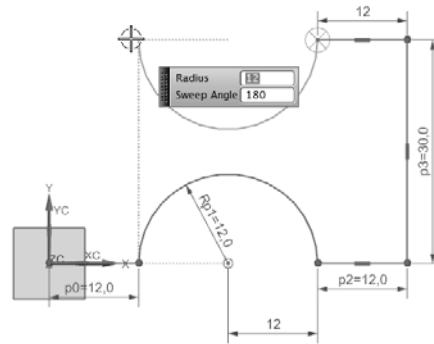

Figure 2-62 Horizontal and vertical help lines displayed to define the endpoint of the arc
13. Move the cursor over the lower arc once and then move it toward the left, refer to the Figure 2-62.
A horizontal help line is displayed originating from the center of the arc being drawn. At the point where the cursor is vertically in line with the start point of the lower arc, a vertical help line appears from the start point of the lower arc, refer to the Figure 2-62.